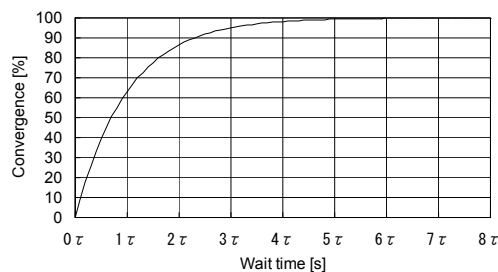

Fig.65 Wait time and convergence (Reference)
This charge time constant becomes the following formula (3) by using the input coupling capacitor and the input impedance. And the calculation value of the convergence to the wait time is indicated in Fig.65.